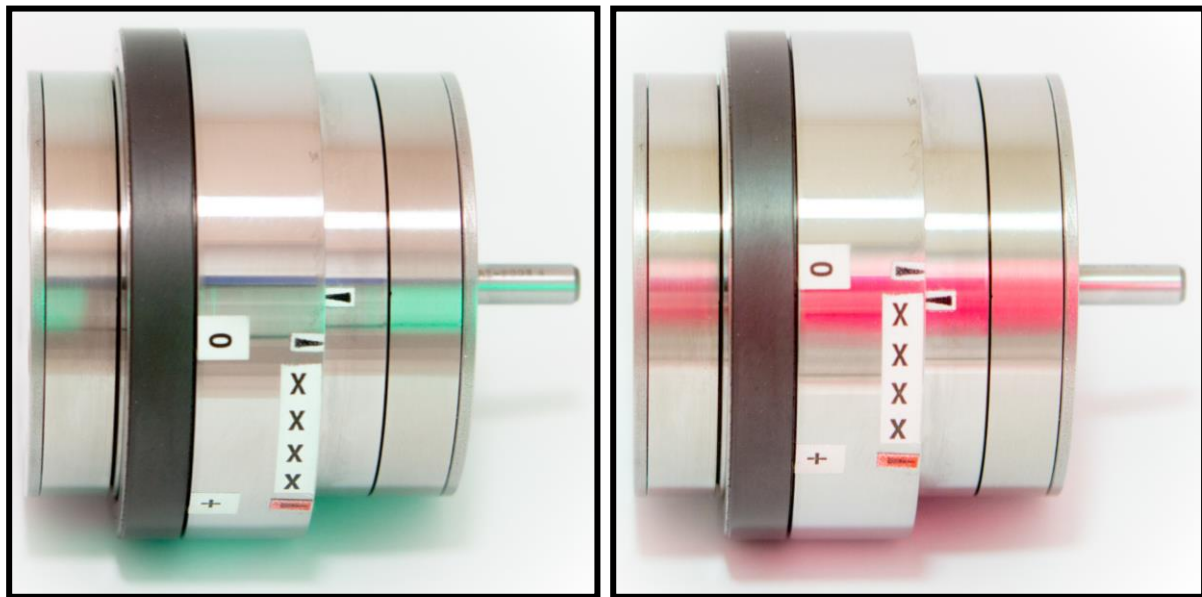

Figure 5: Location of the Operation Limit for the DFB (Left is Good & Right is Bad)
- Outside this range, (marked with 'X', see Figure 5) no reliable reading is guaranteed.